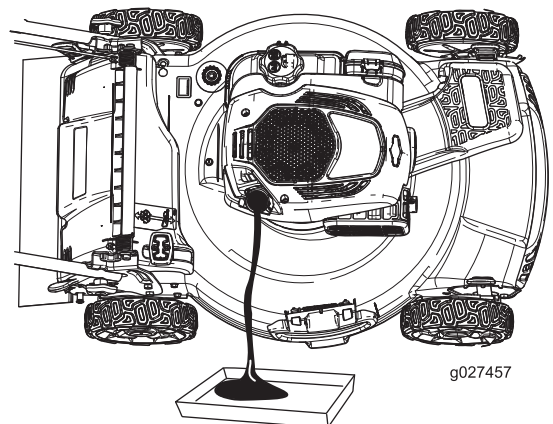

Figure 33
7. Tip the machine onto its side, with the oil-fill tube down, to drain the used oil through the oil-fill tube into the oil-drain pan (Figure 33).